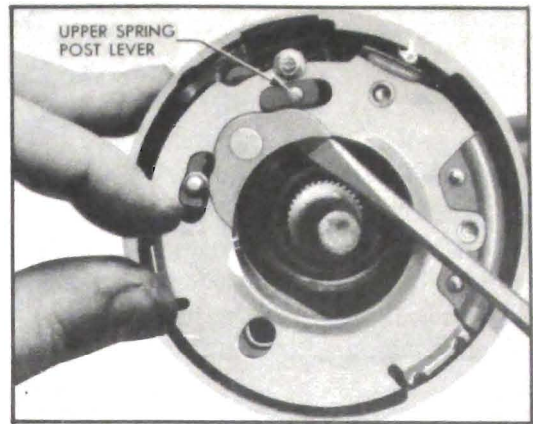

Figure 10-106—Installing Lever Plate
12. Using screwdriver, hold upper spring post lever in position to engage slot in lever plate as the lever plate is installed. See figure 10-106.